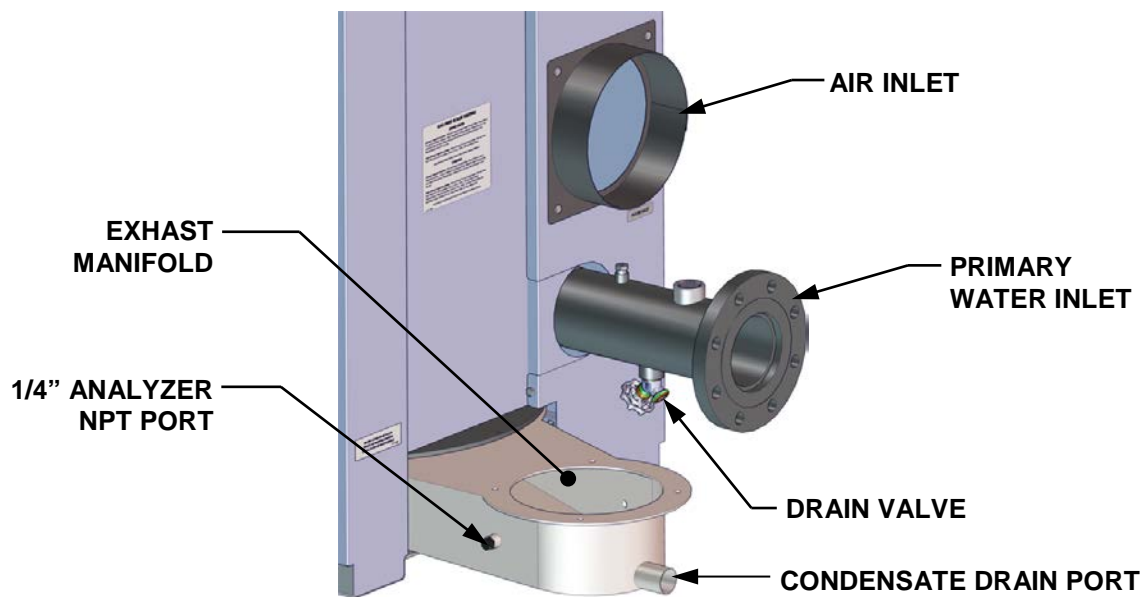
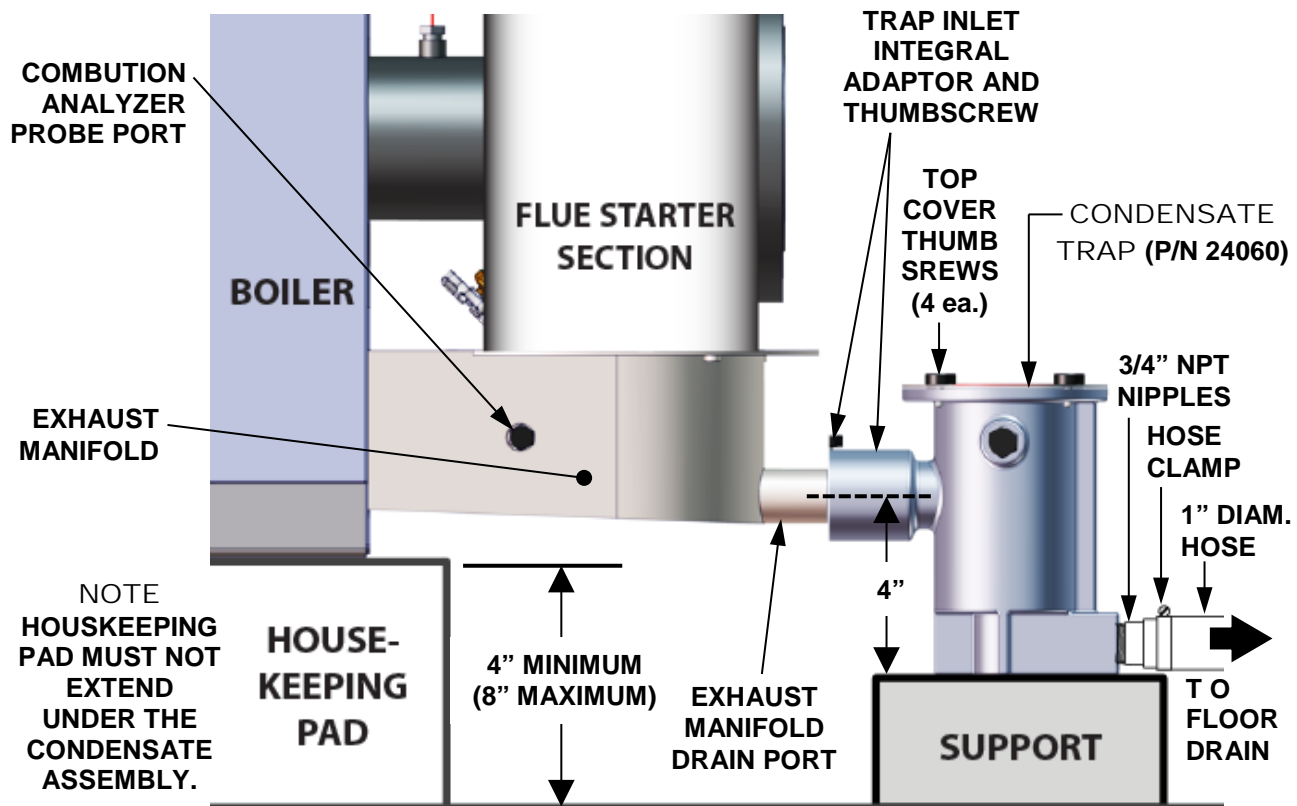

Figure 2-5: Condensate Drain Connection Location
Figure 2-6: Sample Condensate Trap Installation (Right Side View)
The condensate drain port located on the exhaust manifold (Figure 2-5) must be connected to the condensate trap (P/N 24060) which is packed separately within the unit's shipping container. The condensate trap inlet features two integral O-rings and a thumbscrew to allow direct connection of the drain port into the trap inlet. See the Condensate trap Installation instructions and Figure 2-6 on the next page.
A sample condensate trap installation is shown in Figure 2-6. The following general guidelines must be observed to ensure proper condensate drainage:
- The condensate trap inlet (Figure 2-6) must be level the exhaust manifold drain port.
1. Connect the condensate trap inlet to the exhaust manifold drain connection by inserting the drain port directly into the trap adaptor inlet, and then tightening the inlet thumbscrew, as shown in Figure 2-6. The inlet features two integral O-rings to prevent leakage.
Use PVC, stainless steel, aluminum or polypropylene for condensate drain piping (Figure 2-6). DO NOT use carbon or copper components.